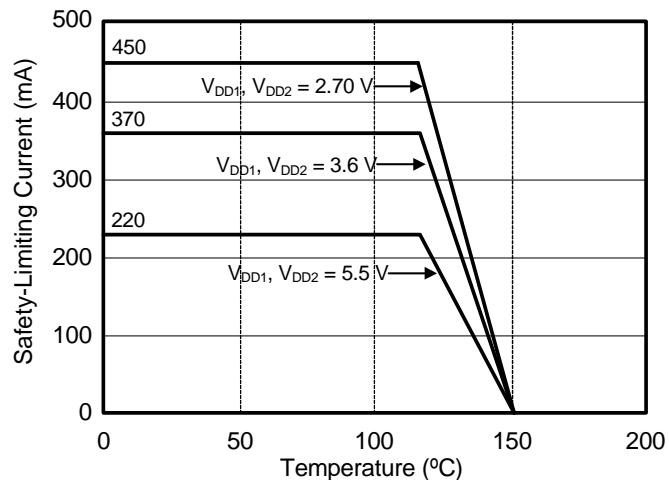

Figure 3. (WB SOIC-16) Thermal Derating Curve, Dependence of Safety Limiting Values with Case Temperature per DIN EN 60747-5-2
1. Maximum value allowed in the event of a failure; also see the thermal derating curve in Figures 3 and 4.